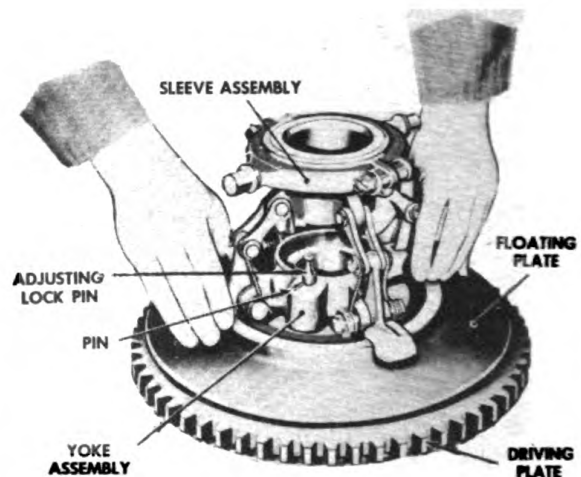
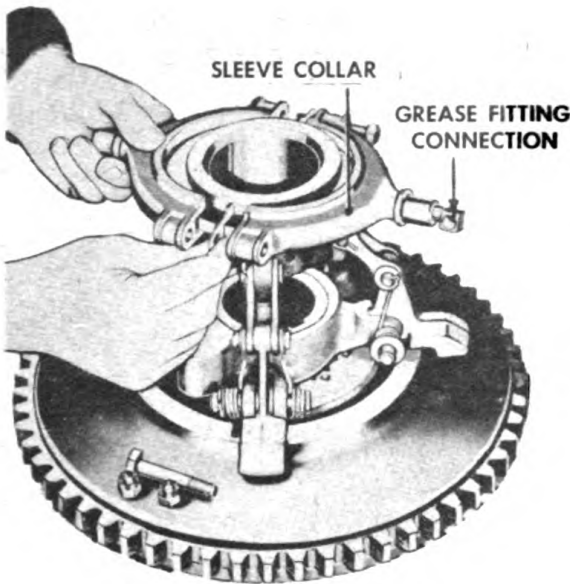

Figure 311. Removing Sleeve and Yoke Assembly.
Figure 312. Removing Sleeve Assembly.
A. If it is not necessary to disassemble the yoke and sleeve assembly, lift the adjusting lock pin out of the notch and insert a cotter or small nail through the lock pin hole and screw the yoke to the left to remove it to get at the hub in the back plate. See Figure 311. If it is necessary to disassemble the yoke and sleeve assembly, remove the sleeve collar by unscrewing the two bolts as shown in Figure 312.
K. Install the yoke and sleeve assembly onto the hub and back plate lifting the adjusting lock pin and keep it from engaging the adjusting notches by inserting a cotter key into the lock pin hole as shown in Figure 311.